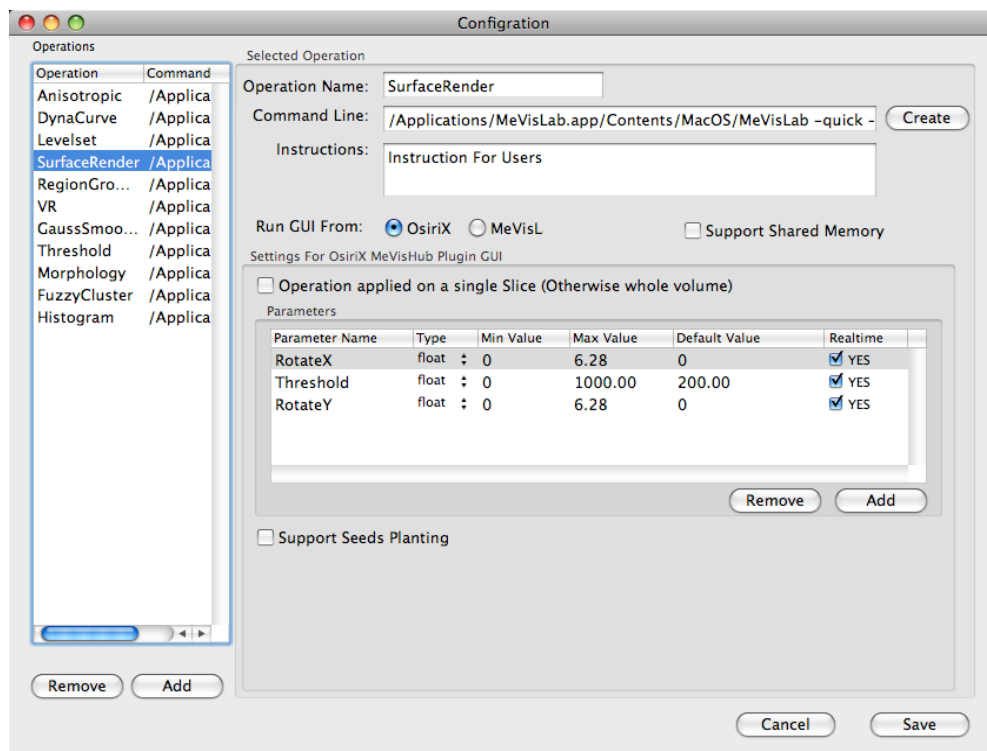

Figure 10. the configuration of MeVisLabHub.
- configure the rest parameter as shown in Figure 10